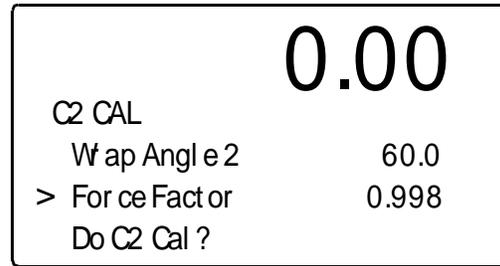

FIG. 2-40 C2 CAL/ENTERING FORCE FACTOR
- Step 18. Press the "-" button to move the cursor in front of "Force Factor". (See Fig. 2-40)